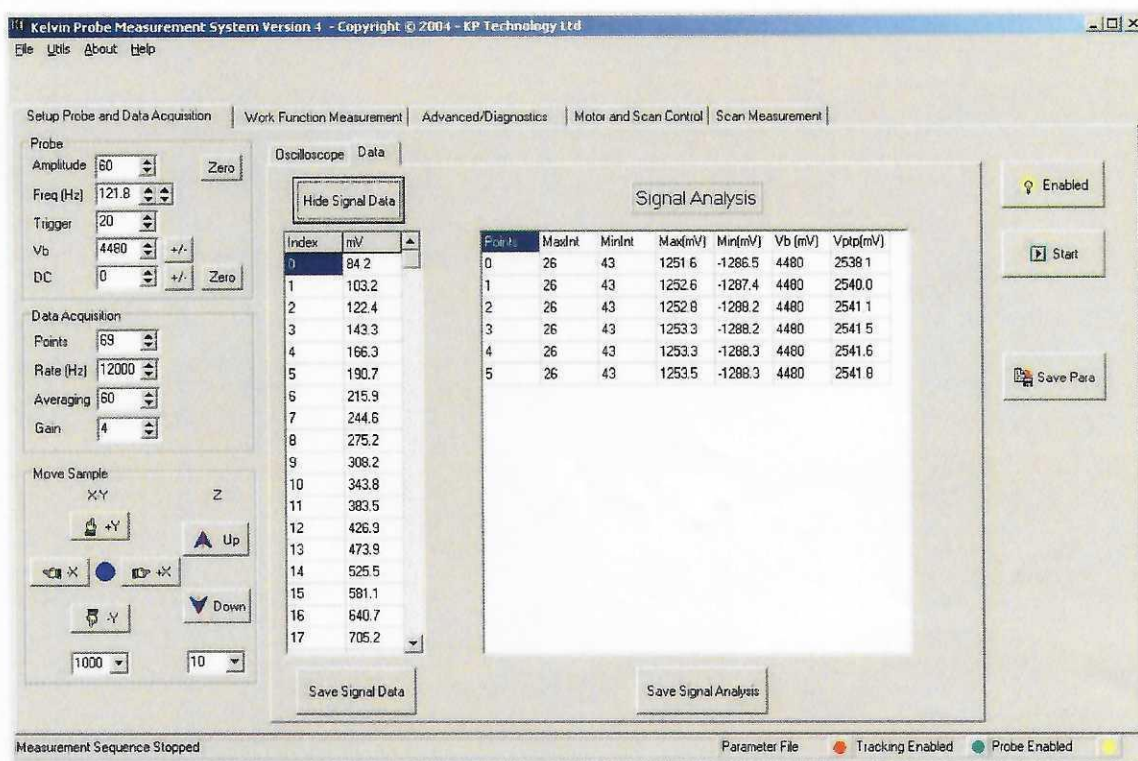

Figure 14. The Data output tab in Setup Probe and Data Acquisition
- minimum in each signal and the positions in the signal array the maximum and minimum occurred, see Figure 14.